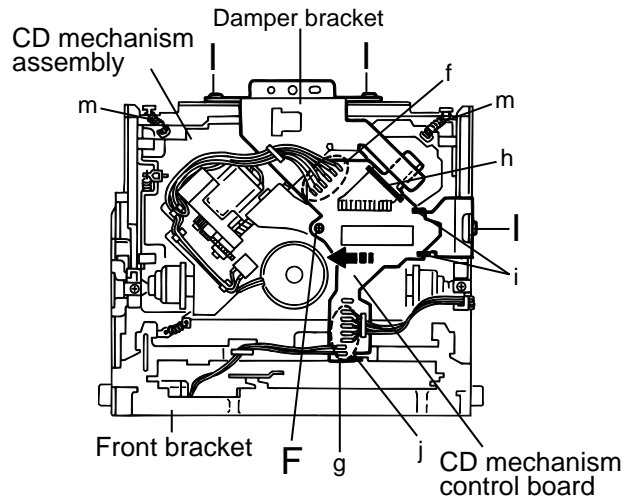

Fig.10
■Removing the CD mechanism control board(See Fig.10 and 11)
(See Fig.10, 15 to 18)**